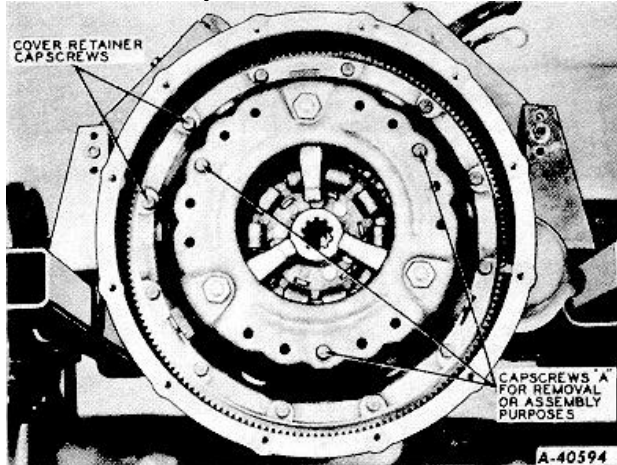

Fig. 34 Clutch Removal
- b. On the clutch assembly shown in Figure 34, the clutch plate should be compressed with capscrews "A" prior to removing the mounting capscrews. Otherwise, it is possible to distort the backing plate. Loosen the clutch backing plate to flywheel retaining capscrews and remove the clutch assembly.